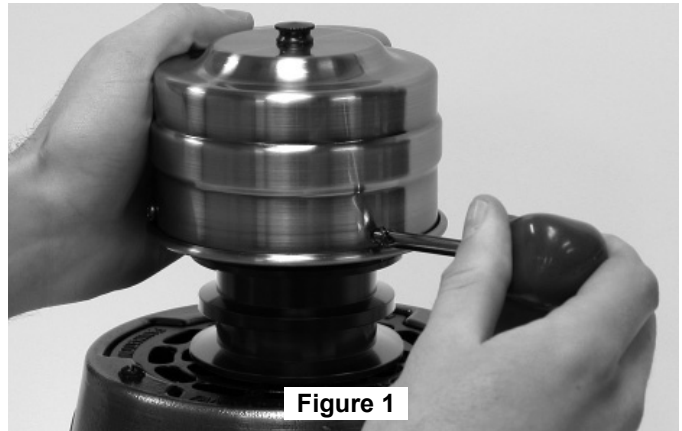

Figure 1
Remove the switch housing from the motor by unscrewing the three screws and unplugging the connector (Figures 1 & 2).
Slide the assembled Switch Cap Housing over the Switch Cap Base by installing and tightening the three screws (Figure 1).
*It is recommended that each fan and the motor have  $\frac{3}{4}$ " plywood backing secured to a structural member for adequate support (Figure 1). A 120 VAC electrical feed, centered under the motor unit and wired to a 3 speed control (supplied) is required. The motor unit will not operate more than 2 pulley/blade assemblies.*